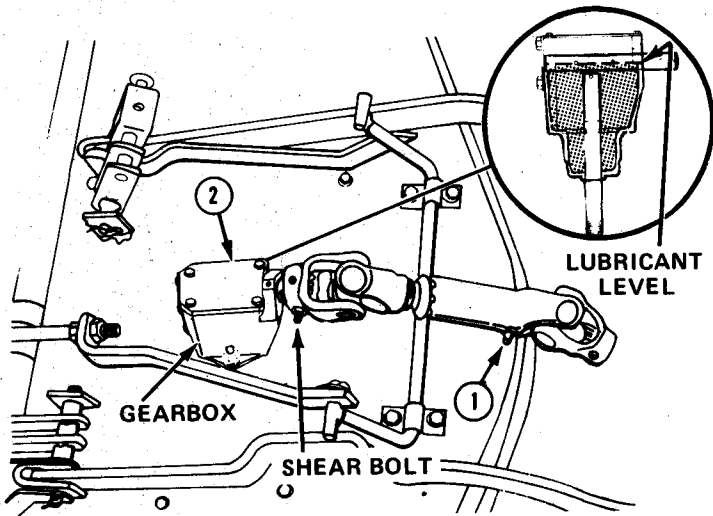

FIGURE 8
Figure 8 shows the lubrication points on the mower. Lubricate as follows:
2. **Gearbox** — Check lubricant level every 25 hours of operation or once a season by removing cover on top of the gearbox. The lubricant level should be to the center line of input shaft, See Figure 8. If lubricant level is not correct, fill gearbox to proper level and replace cover and screws. Obtain special Ariens No. 000150 Moly Multi-Purpose Grease from your dealer.